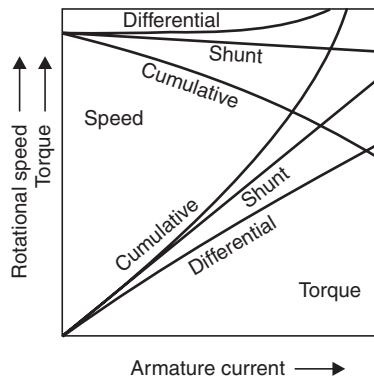

Fig. 73. Speed, torque relations for shunt and compound fields with the same armature current.
Fig. 73 shows the comparison among shunt, series and compound operation for the *same motor* with its armature being acted upon by either or both fields. It is worth noting here that the outputs vary at the same armature current.
- Figs. 73 and 74 are drawn with the motors operating on their full rated voltage. *Different voltages will move the curves, but the relative shapes will remain similar.*
Fig. 73 shows that the speed characteristics for the same armature current are very much different. Therefore, the ability to take increasing torque loads that is the special contribution of a series field is accompanied by a much greater speed change.